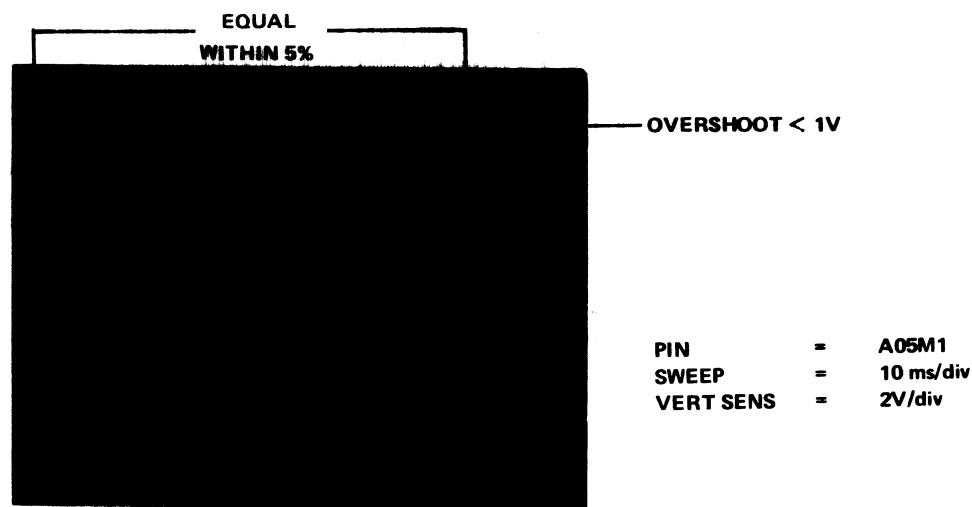

Figure 5-20 Full Stroke Position Waveform
- Set the scope vertical sensitivity to 2 V/div and observe A05M1 (SIN POSITION) for a scope display as illustrated in Figure 5-20. The waveform amplitudes at the start and end of the seek must be equal within 5%, and the overshoot at the end of the seek must not exceed 1 V. If overshoot is excessive, recheck the VA and the Acceleration (Positioner Current).